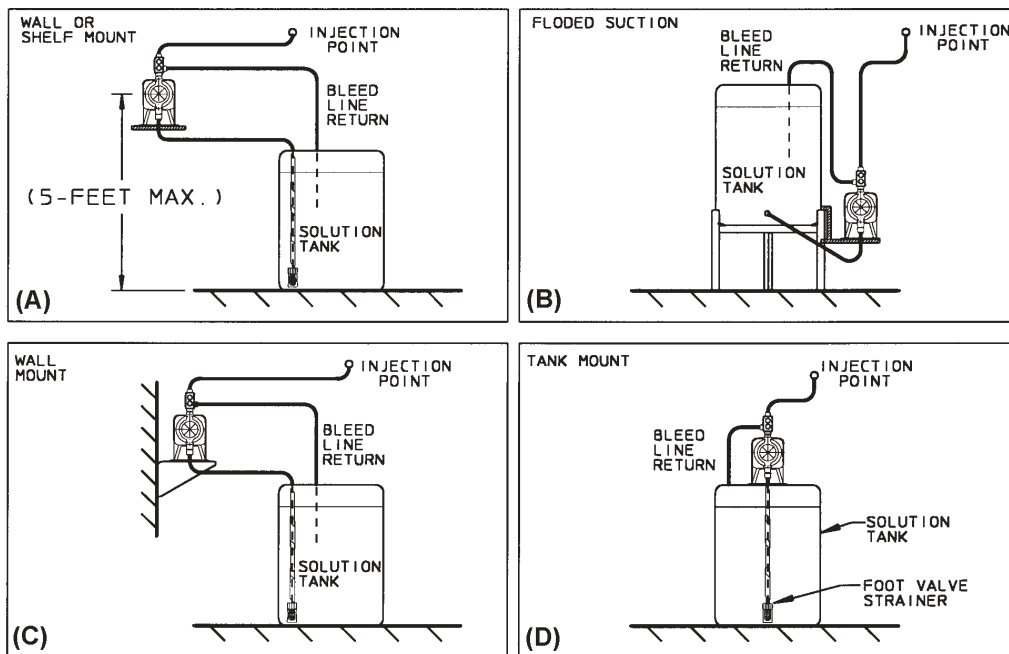
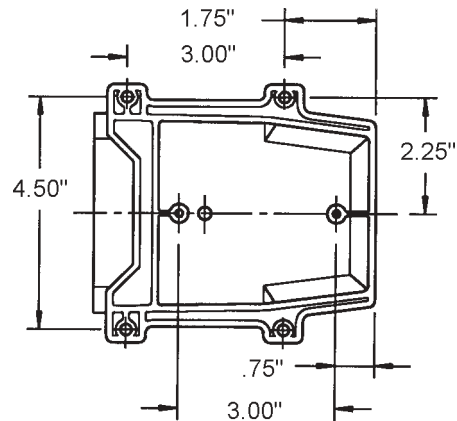

Figure 2.1
Figure 2.2
Typical mounting arrangements are shown in Figure 2.1.
- For wall or shelf mounting, refer to Figure 2.1(A). Connect suction tubing to suction valve of chemical pump. Suction valve is the lower valve. Tubing should be long enough so that the foot valve/strainer assembly hangs about two to three inches above the bottom of chemical tank. To keep chemical from being contaminated, the tank should have a cover.
- Flooded suction mounting (installing the pump at the base of the chemical storage tank, Figure 2.1(B)) is the most trouble-free type of installation and is recommended for very low output requirements. Since the suction tubing is filled with chemical, priming is accomplished quickly and the chance of losing prime is reduced.
To mount pump, drill four holes of 1/4" diameter in the shelf as shown in the dimension drawing (Figure 2.2). Attach pump securely using four #10 bolts and nuts.
- The pump can be mounted to a wall, as shown in Figure 2.1(C). A wall mount bracket kit is available that includes all necessary hardware to mount the pump to the bracket and the bracket to the wall. Mounting the pump other than as shown in Figure 2.1(C) defeats the purpose of the housing drain. Mounting dimensions for the pump are provided in Figure 2.2 for reference.
- The pump can be mounted on top of a solution tank as shown in Figure 2.1(D). Install chemical pump on the cover. Insert suction tubing through the center hole and cut tubing so foot valve/strainer hangs about two to three inches above the bottom of the tank. Mount the chemical pump rigidly by drilling four 1/4" holes and using four #10 screws and nuts.
- To prevent clogging or check valve malfunction, always install a strainer assembly to the end of the suction tubing (Figure 2.1(D)). This foot valve/strainer assembly should always be installed two to three inches above the bottom of the chemical tank. This will help